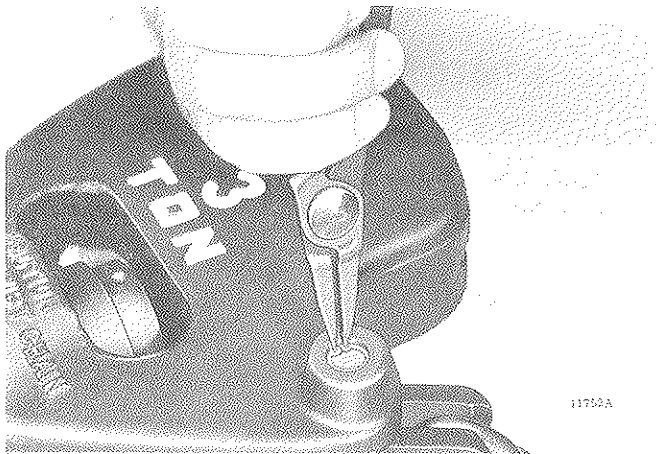
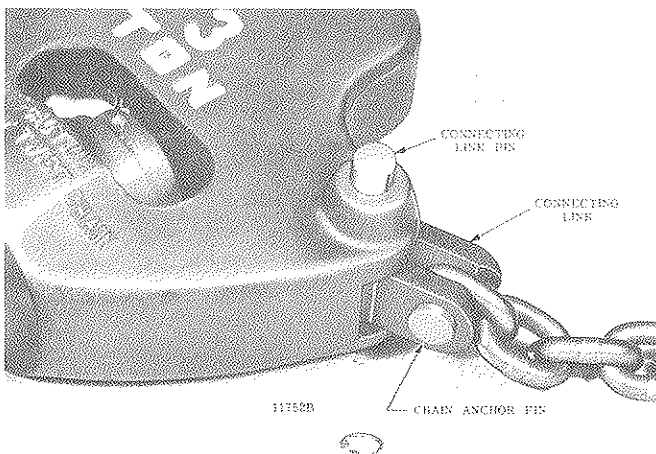

Figure 7-38. Removing Retaining Ring From Bore of Connecting Link Pin - 3 Ton Lower Block Assembly.
Figure 7-39. Removing Connecting Link Pin From 3 Ton Lower Block Assembly.
(1) Remove chain sprocket from lower block following procedure for 2-ton coil chain models described in paragraph 7-5, b, (2) above.
(2) To disconnect end of chain anchored to lower block, remove retaining ring from pin bore (Fig. 7-38). Push connecting link pin from bore by pressing through hole provided in opposite side of block (Fig. 7-39). Chain connecting link is now free and can be further disassembled for inspection.
(3) To remove hook from lower block body, first drive grooved pin from hook nut. Then hold nut from turning using drift punch and rotate hook to unscrew it from nut. Separate hook, shroud and thrust washer from body.
(4) To remove chain sprocket from upper suspension hanger, first remove hanger as outlined in paragraph 7-2,a,(4). With hanger removed, push sprocket pin from hanger and sprocket. Note: Sprocket pin must be removed toward side having small anti-rotation pin slot in hanger.